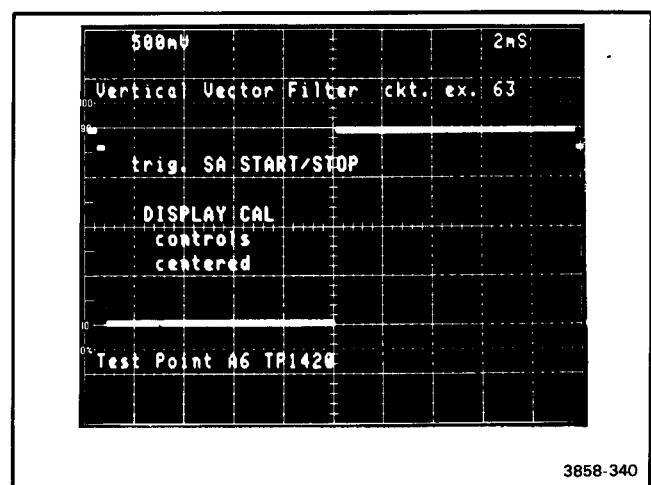

Figure 3-20. Waveform for Vertical Vector Filter test.
36) Vertical Vector Filter (63). If this test fails, place the Display Board on an extender and run circuit exercise 63. Use an oscilloscope to troubleshoot the Vertical Vector Filter. Waveform Figure 3-20 is a typical output of this test. The SA Start/Stop line provides a stable oscilloscope trigger while using this test for troubleshooting.